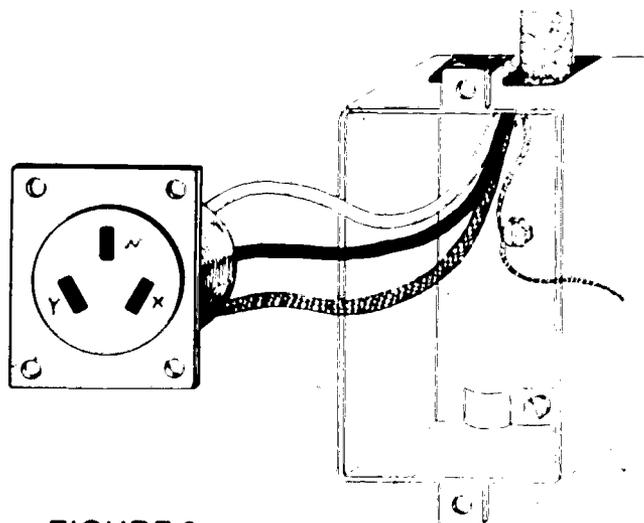

FIGURE 2
K. Install your device (Figure 2)